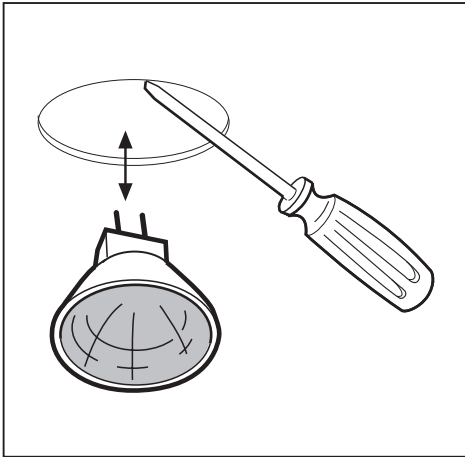

Fig.8
• Replacing halogen light bulbs (Fig.8):